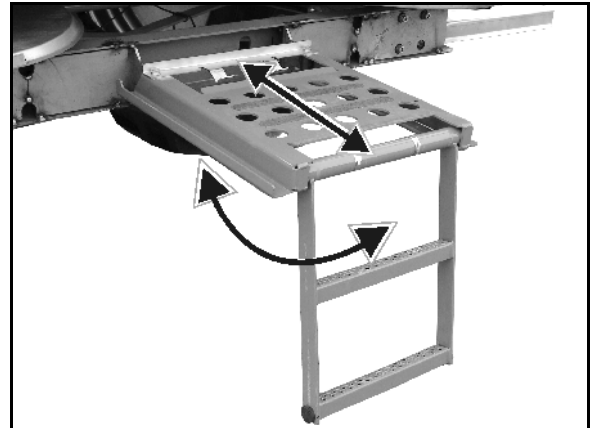

Fig. 38
- To climb up, pull out the ladder with platform and fold down the ladder (Fig. 38)